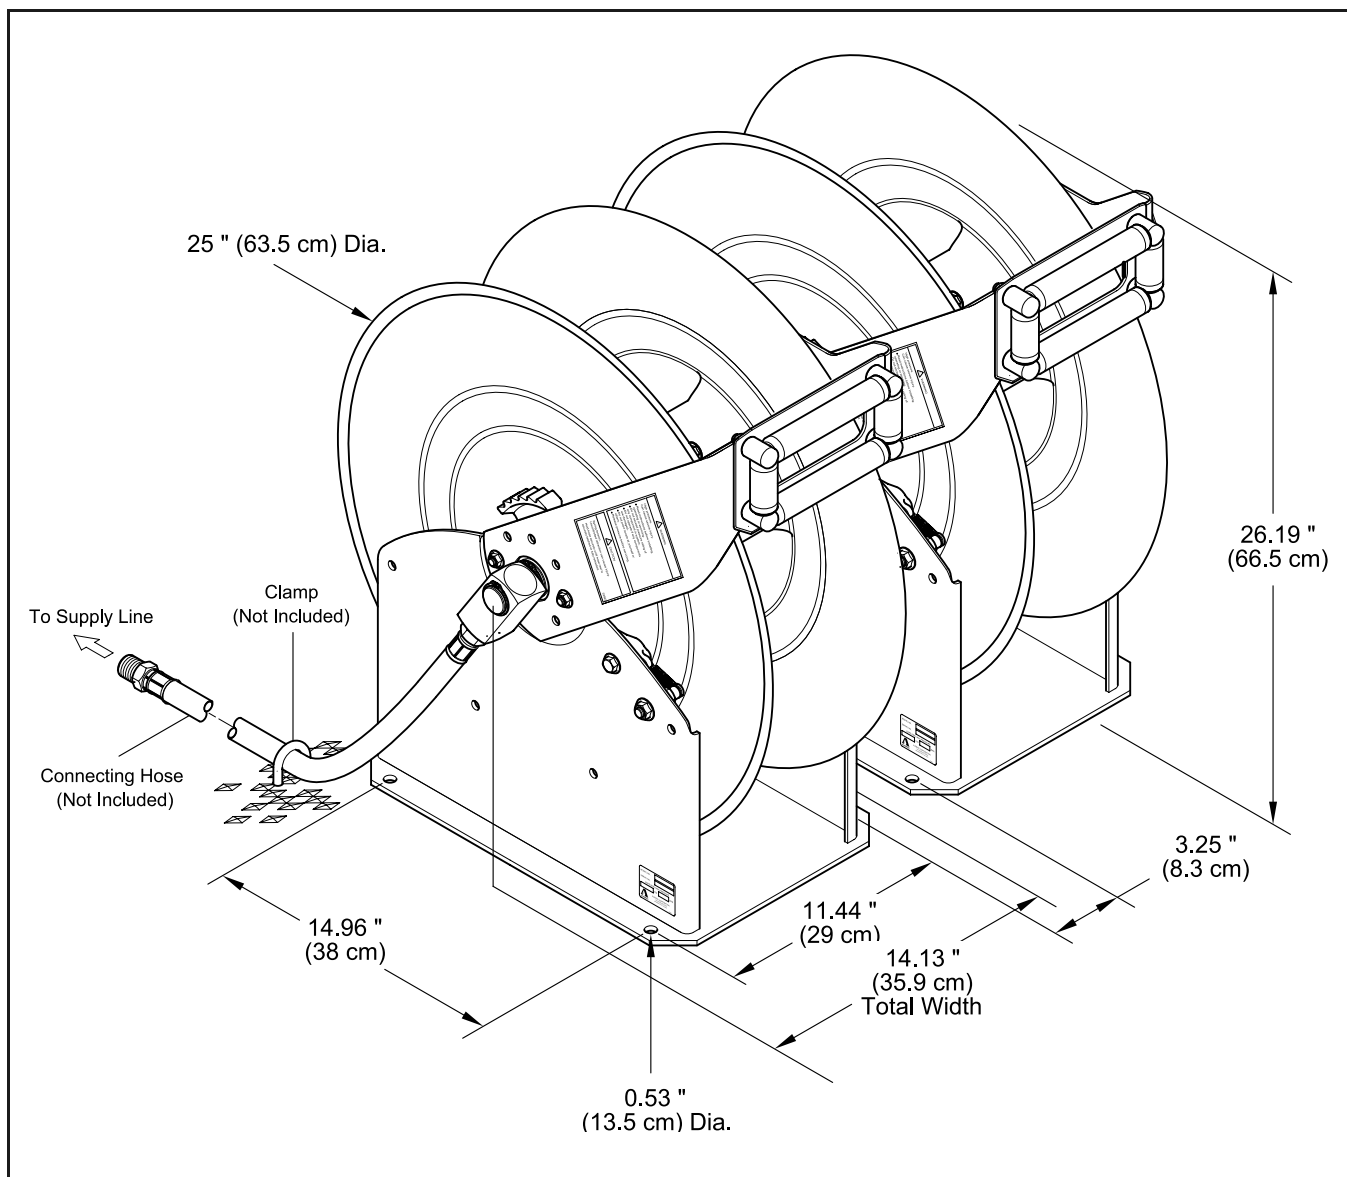

Figure 4 Space Required for Banked Reels (with Bolt Pattern Dimensions)
*The anchor should be in-line with the inlet of the Swivel to minimize side loading. See **Figure 4**.*